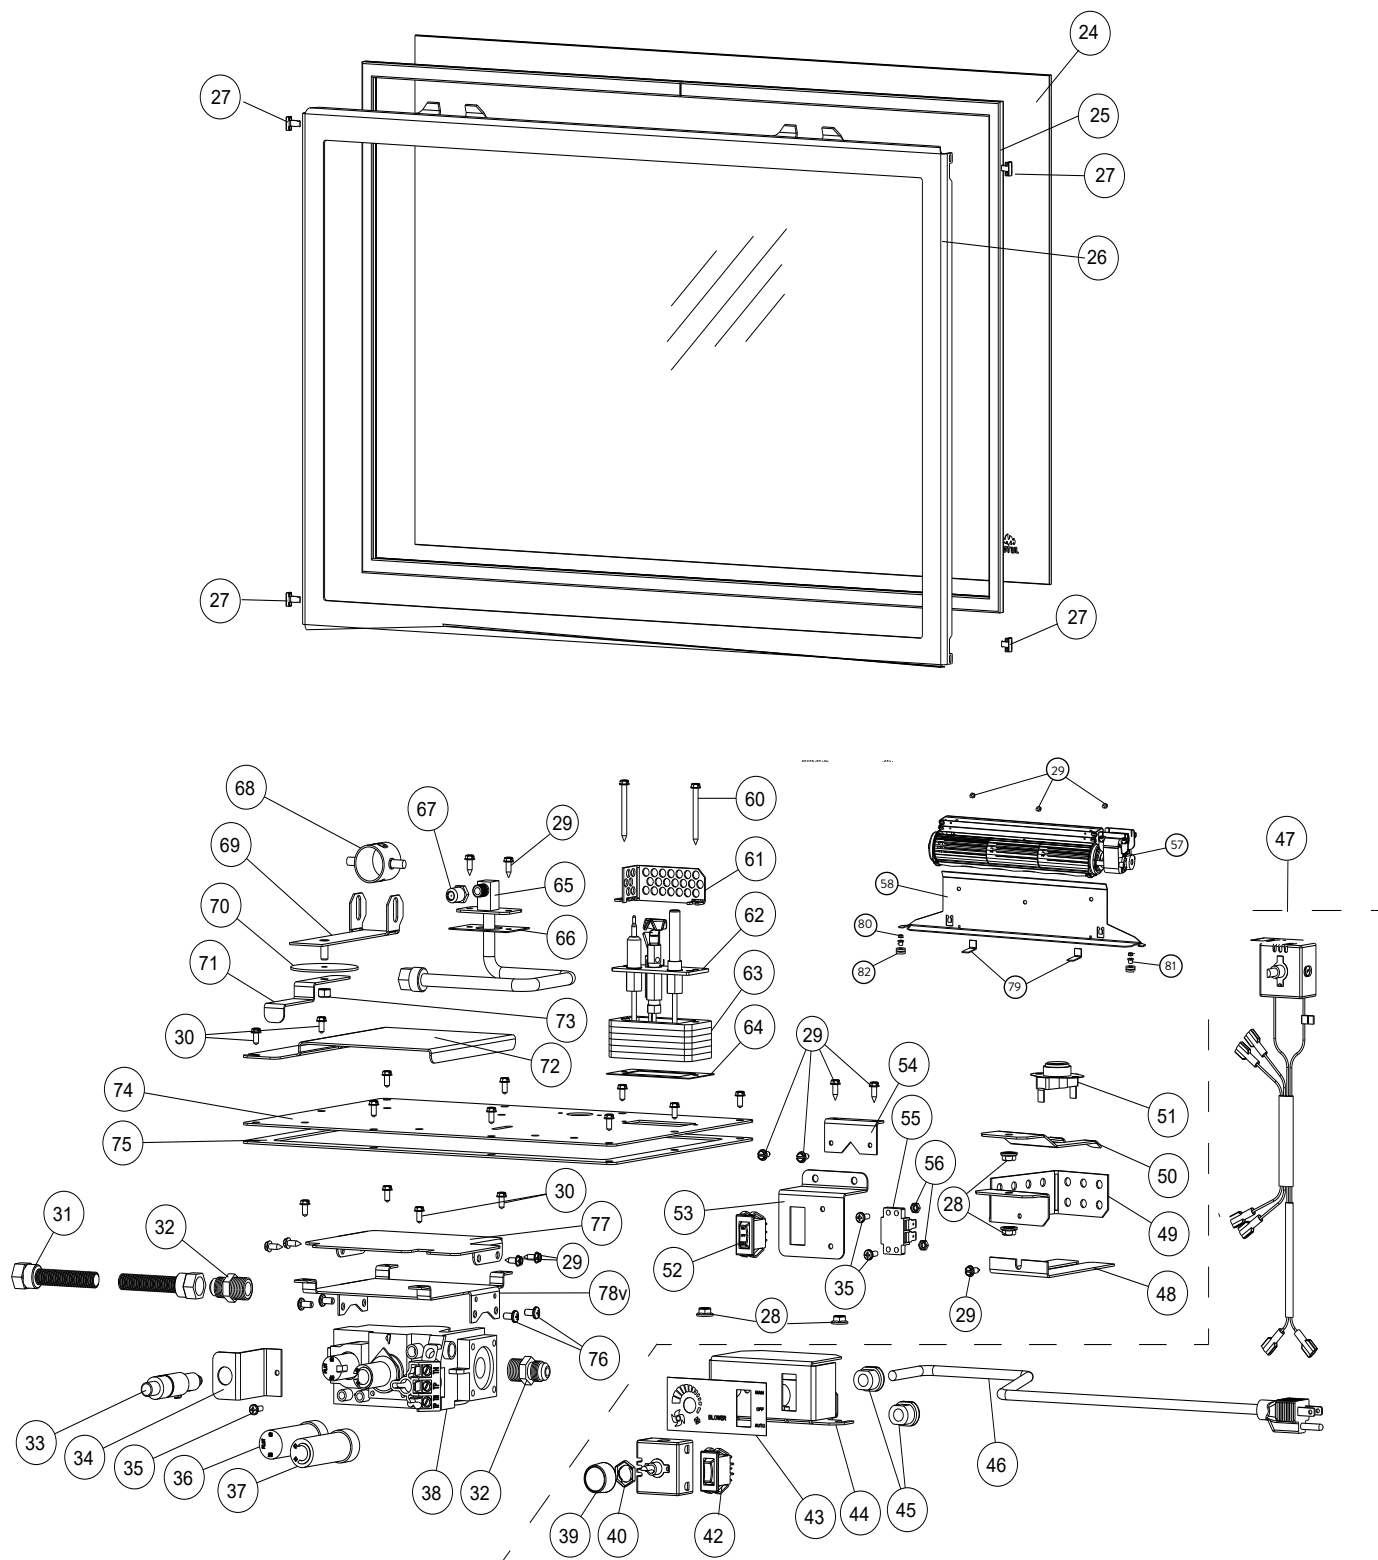

Figure 10.2
**ALWAYS USE JØTUL AUTHORIZED PARTS. NEVER SUBSTITUTE PARTS FROM OTHER SOURCES. See fig. 10.2, page 32.**